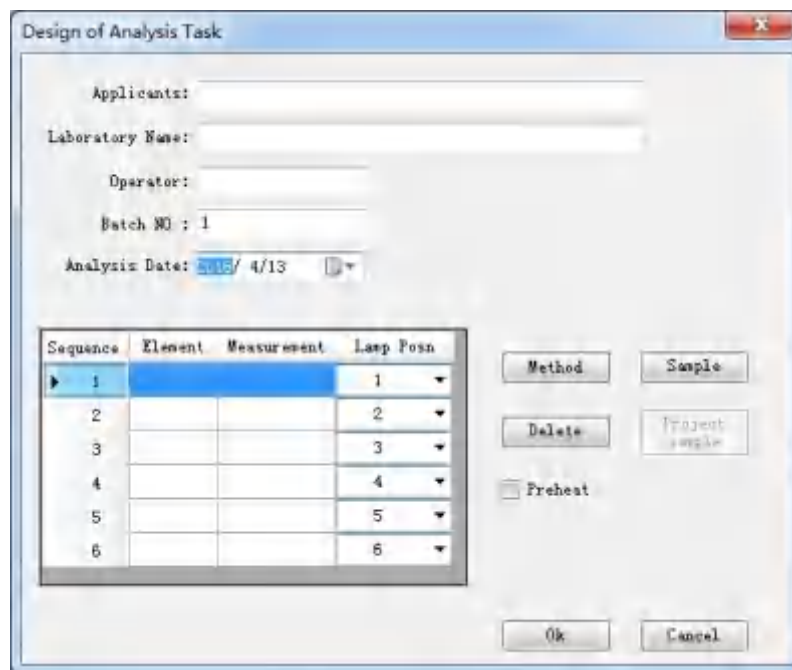

Fig. 3-3 Create an analysis task
- i) Click the "New" icon to pop up the "Create Analysis Task" window, as shown in Fig. 3-3 below.